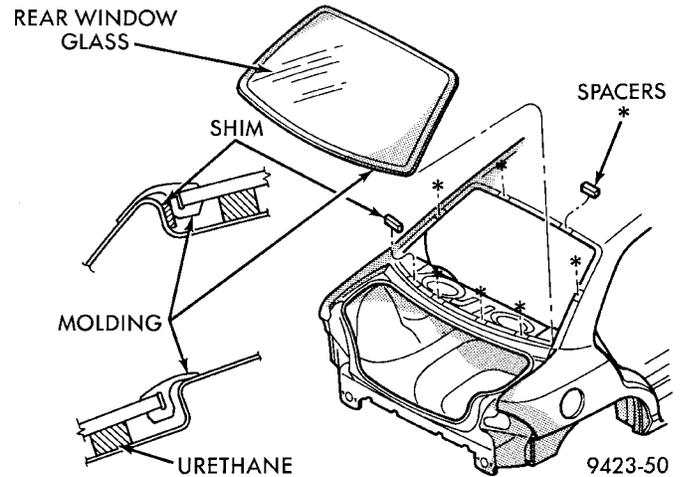

Fig. 8 Rear Window Glass
- (1) Prepare the work area, window fence, and glass the same way as described in the Windshield section of this group.
- (2) Place fence spacers at the locations shown (Fig. 8).
- (3) Install the rear window molding on glass.
- (4) Apply a 10 mm (0.4 in.) bead of urethane around the perimeter of the glass.
- (5) Install the glass in the same manner described in the Windshield section of this group (Fig. 8).
- (6) Connect rear window defogger wiring and interior trim.
- (7) After urethane has cured, water test rear window to verify repair. Verify rear window defogger operation, see Group 8N, Rear Window Defogger.